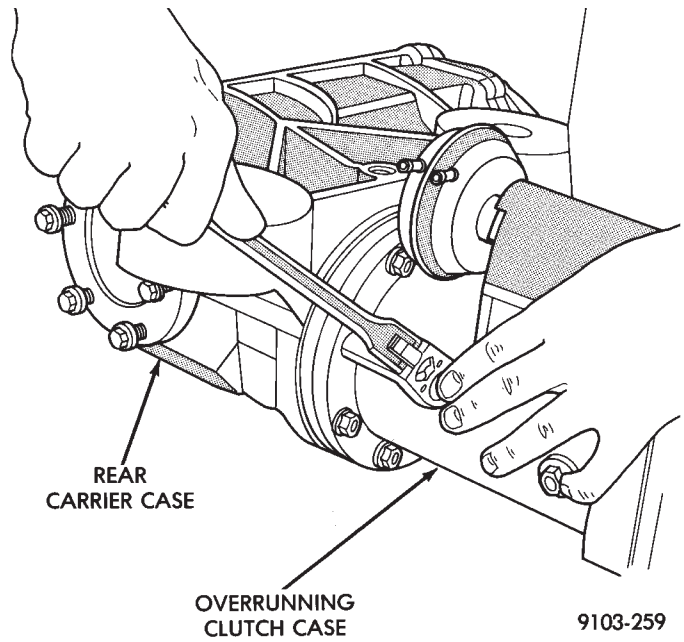

Fig. 5 Overrunning Clutch Case to Rear Carrier Bolts
- (1) Remove rear drive line module assembly from vehicle.
- (2) Drain fluid from overrunning clutch case.
- (3) Remove overrunning clutch case to rear carrier bolts (Fig. 5).